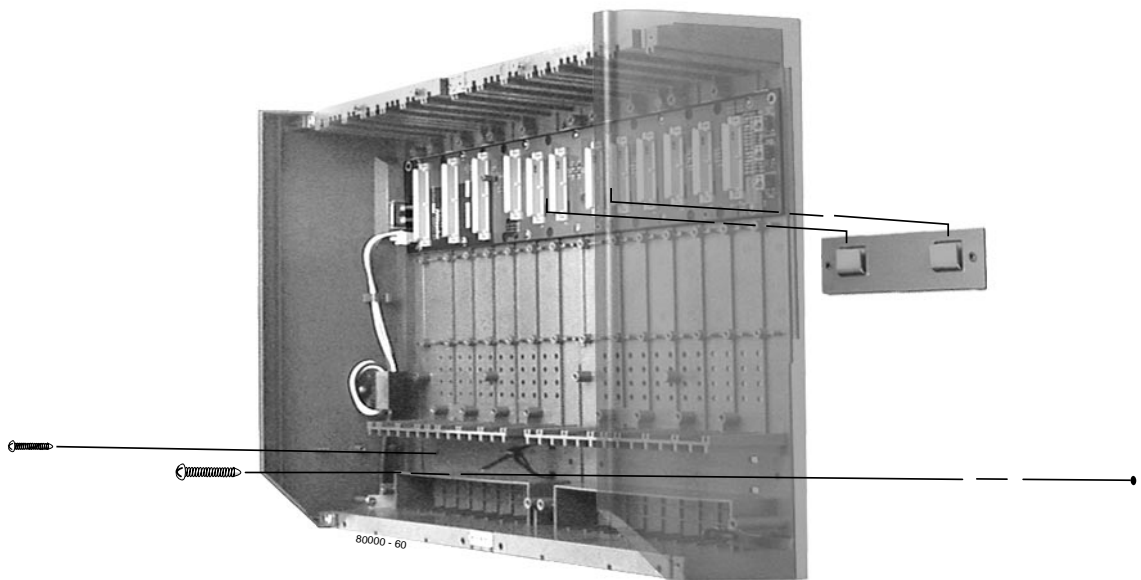

Figure 1-7: Hanging the 8 Slot Cabinet
- See Figure 1-7 *Hanging the 8 Slot Cabinet* below when hanging an 8 slot cabinet.